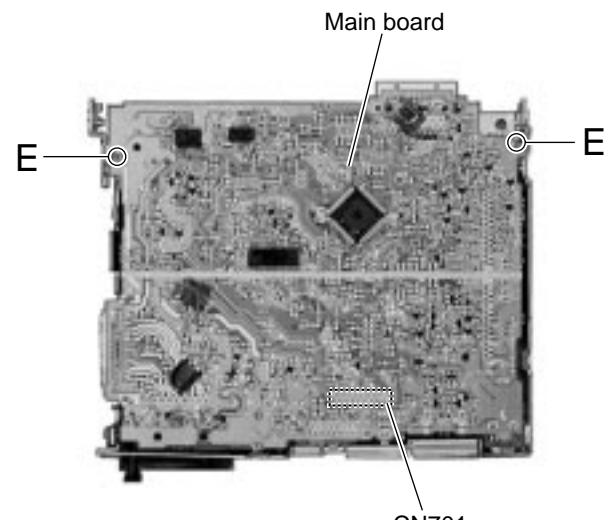

Fig.8
■Removing the side bracket assembly (See Fig.8 to 10)